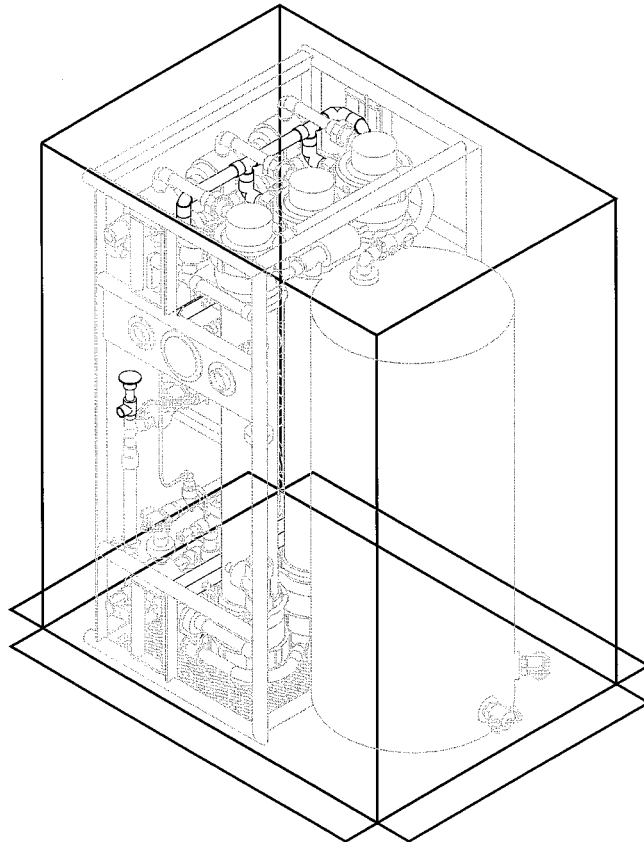

Figure 1. UF Module with Contamination Avoidance Cover.
4. Cover all modules with the CACs from the BII. The UF module and high-pressure pump module have a CAC each. See Figure 1 and Figure 2.